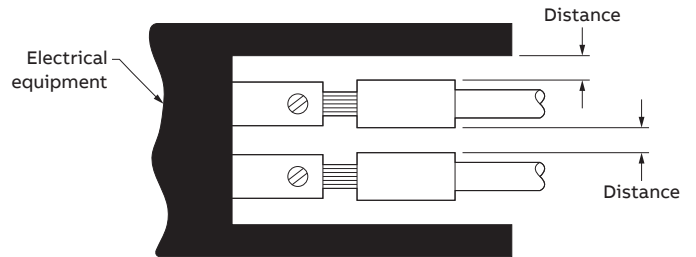

Figure 2
- c. Check spacing between adjacent connectors (with insulators installed) and distance to side wall in electrical equipment to confirm freedom from interference (Figure 2).